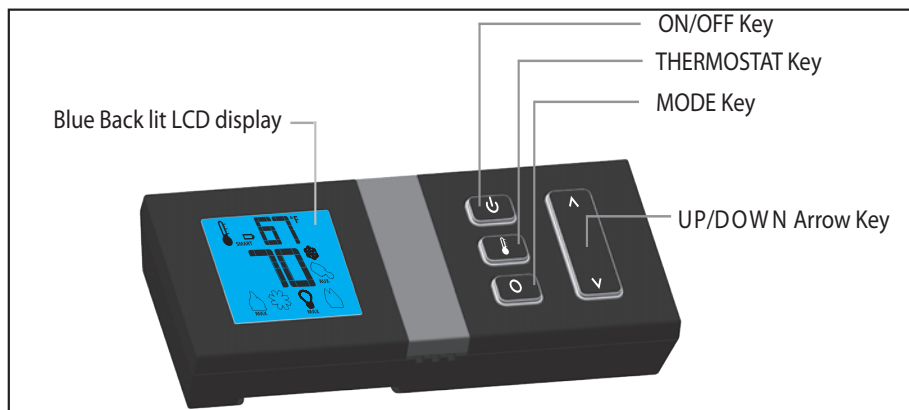
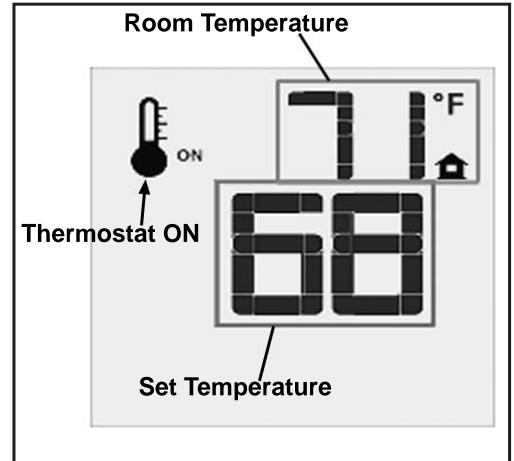

Figure 3: Proflame 2 Transmitter.
Figure 8: Thermostat Function
The Proflame 2 Transmitter is a remote control with a blue backlit LCD display. It uses a streamline design with a simple button layout and informative LCD readout (Figure 3). The Transmitter is powered by three (3) AAA type batteries. A Mode Key is provided to Index between the features and a Thermostat Key is used to turn on/off or index through Thermostat functions (Figure 8 & 9).